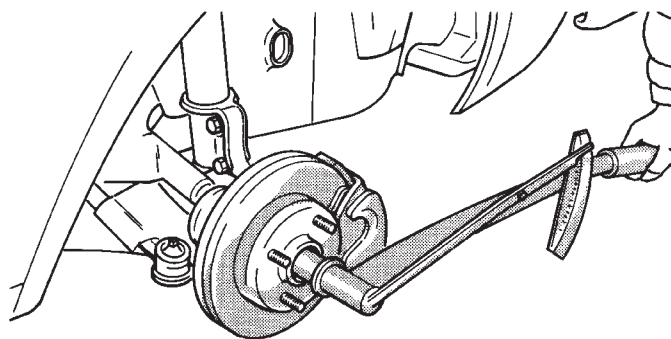

Fig. 19 Tighten Hub Nut
- (2) With brakes applied, tighten hub nut to 245 N•m (180 ft. lbs.) torque (Fig. 19).
- (3) Install lock, spring washer and **new** cotter